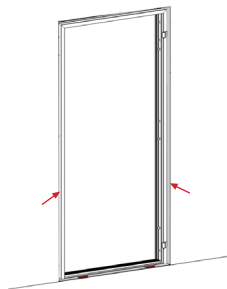

Figure 9.
3.3. Install the frame in the doorway on backing materials (wedges, bars) (figure 9), ensuring approximately the same distance between the door frame and the doorway on both sides.